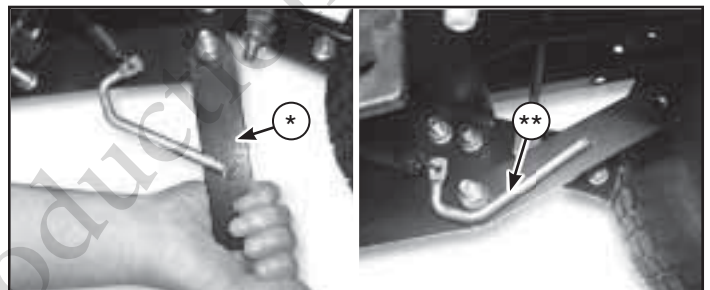

Figure 11
5. Rotate the belt tension lever (*, Figure 11) upwards and towards the back of the tractor into the locked position (**).